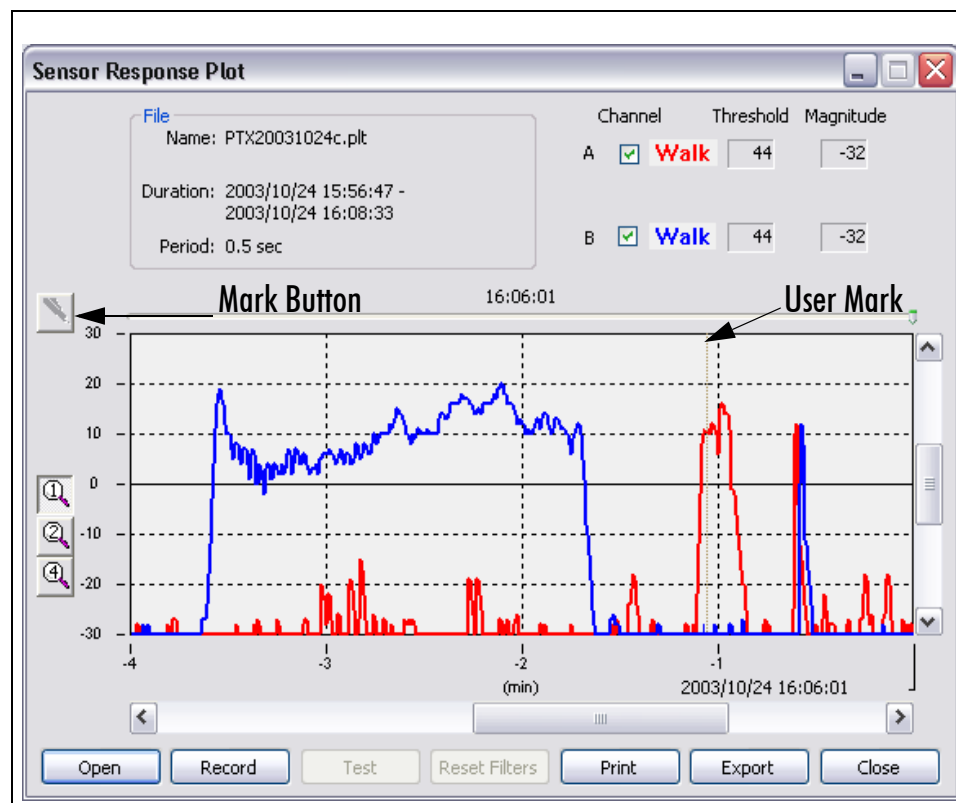

Figure 7-6: Sensor Response Plot dialog box with Mark button
Figure 7-6 shows a UCM plot.
1. Press the **Mark** button  on the **Sensor Response Plot** for later reference. See *Sensor Response Plot dialog box with Mark button*, Figure 7-6: page 7-13.